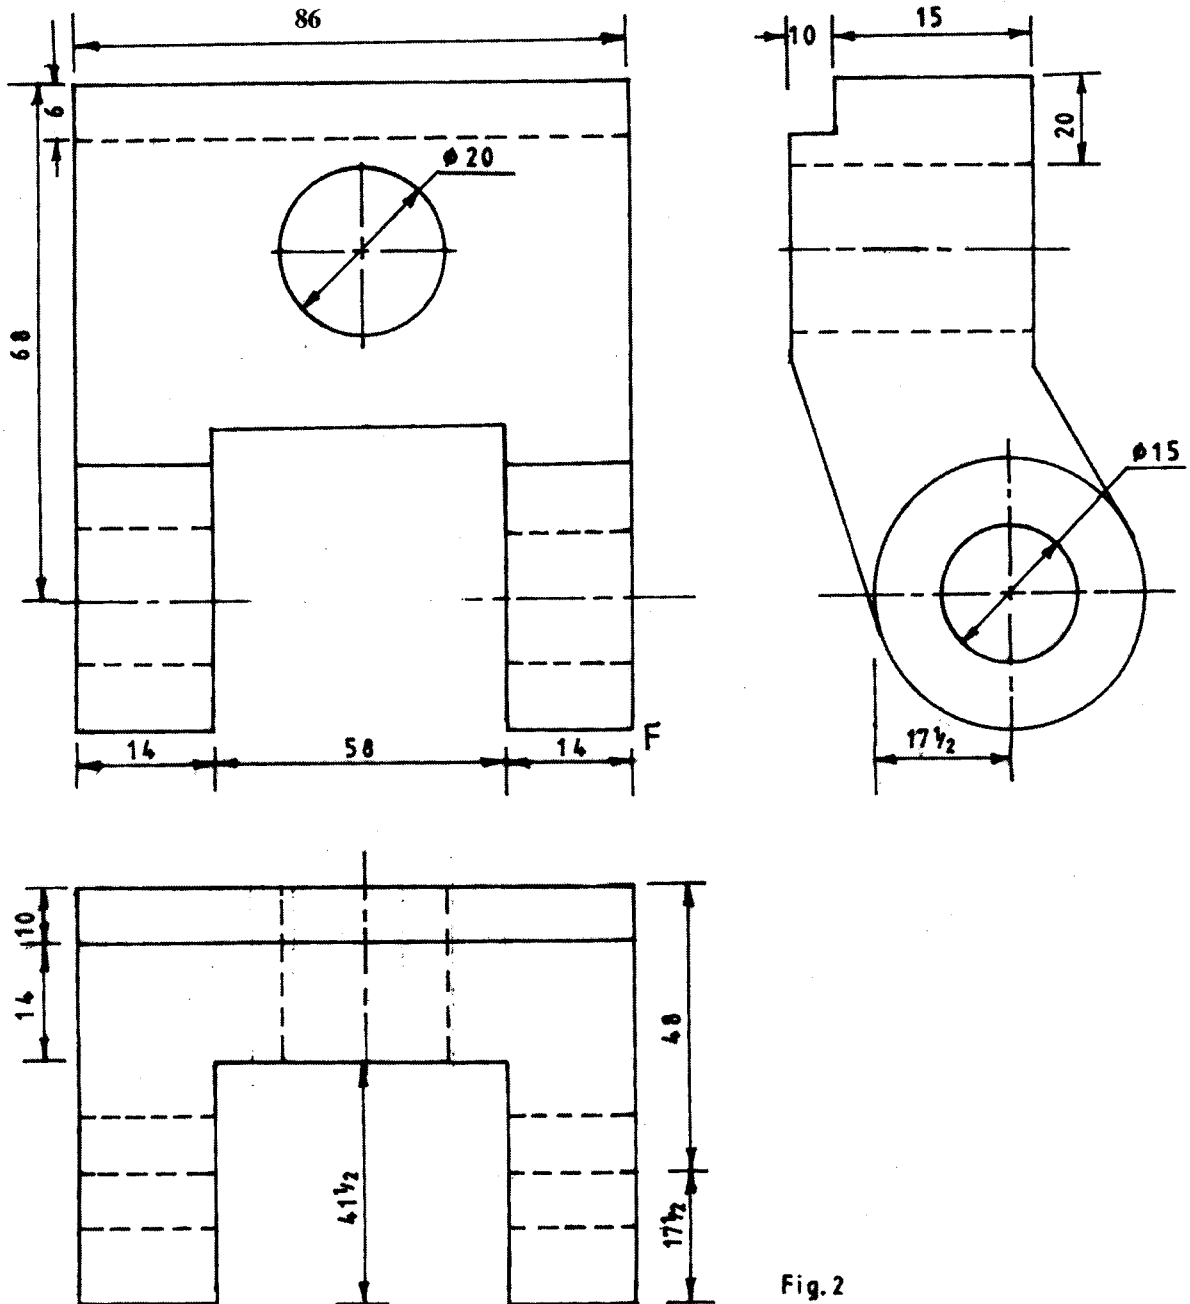

Fig. 2
- 11 Figure 2 shows the three orthographic views of a bracket drawn in first angle projection.